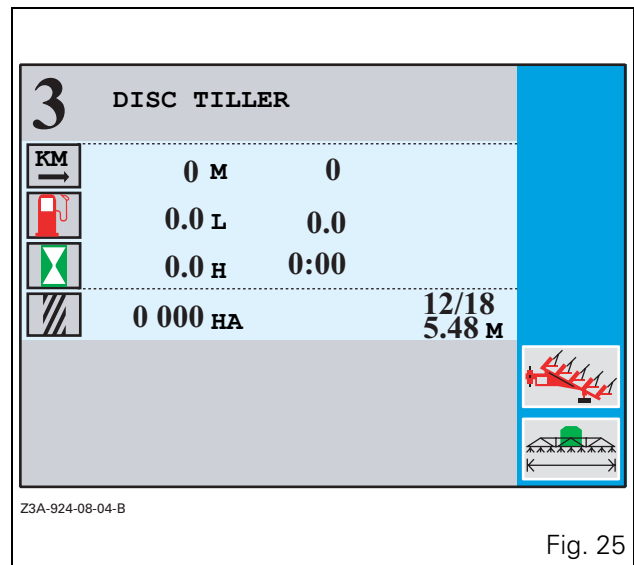

Fig. 25
- Press the key «₄, whatever the icon displayed facing this key (plough or sprayer). The settings window (Fig. 25) is displayed.